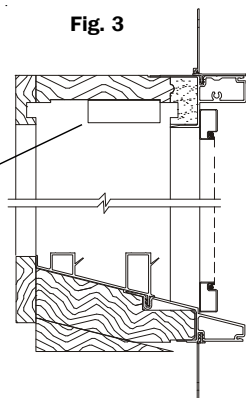

Fig. 4
4. Apply the new foam head jamb gaskets at the top of each side jamb. Fig. 4.